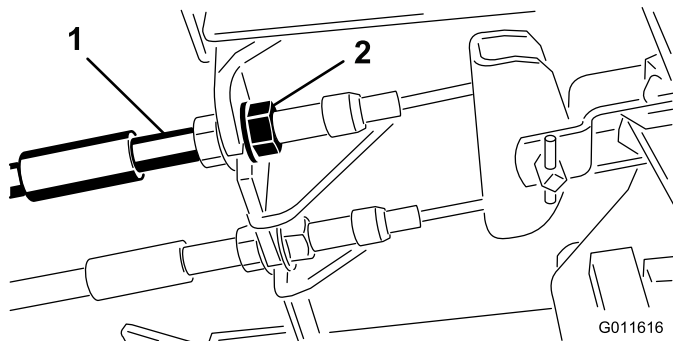

Figure 35
1. To reduce free travel of the brake pedals, tighten the brakes by loosening the front nut on the threaded end of the brake cable (Figure 35).